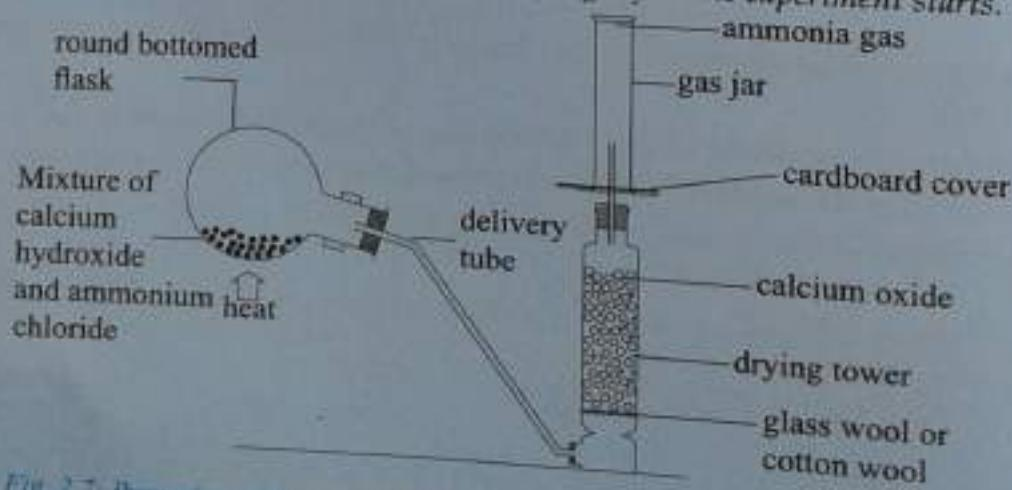

Fig. 2.7: Preparing ammonia gas using ammonium chloride and calcium hydroxide
3. Arrange the apparatus as shown in Fig. 2.7 below.